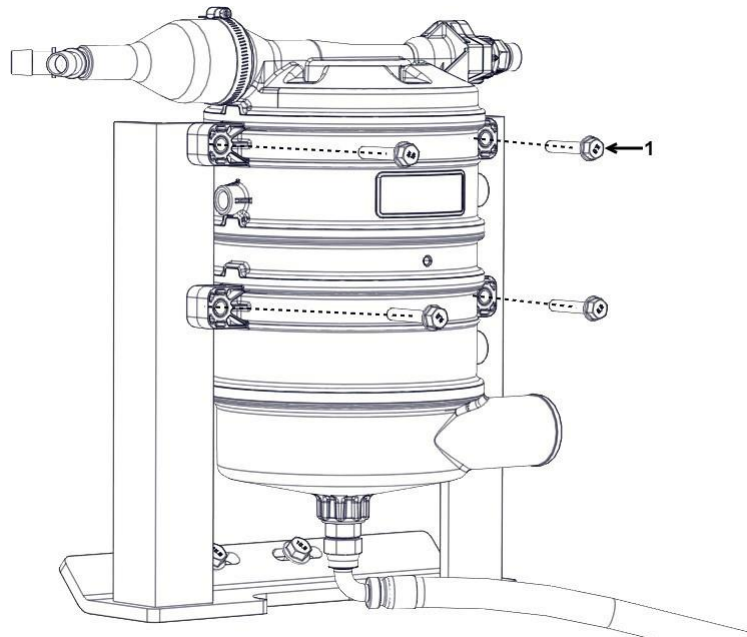

Figure 28. CCV Canister Bolts
5. Remove all four CCV canister bolts. (Refer to Figure 28)